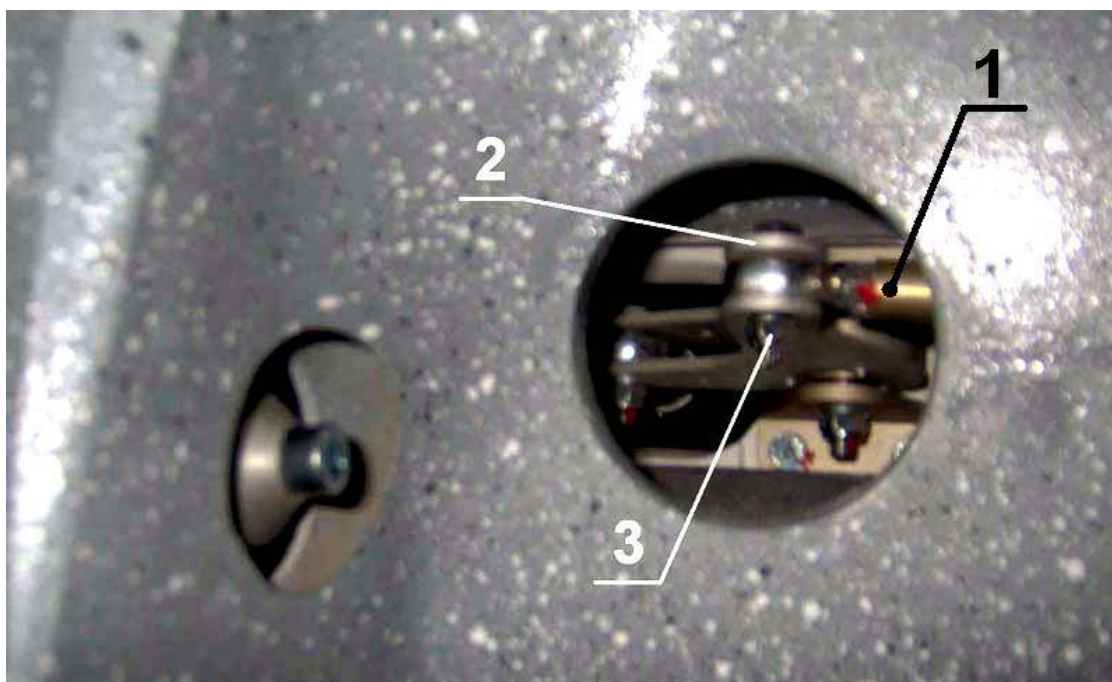

Fig. 15
- 16) Fix the rod KA6020050R (1) in the lever KA6020040R (2) with the bolt M6x30 C9996259A (3). Use only new self-locking nuts M6 (Fig. 15).